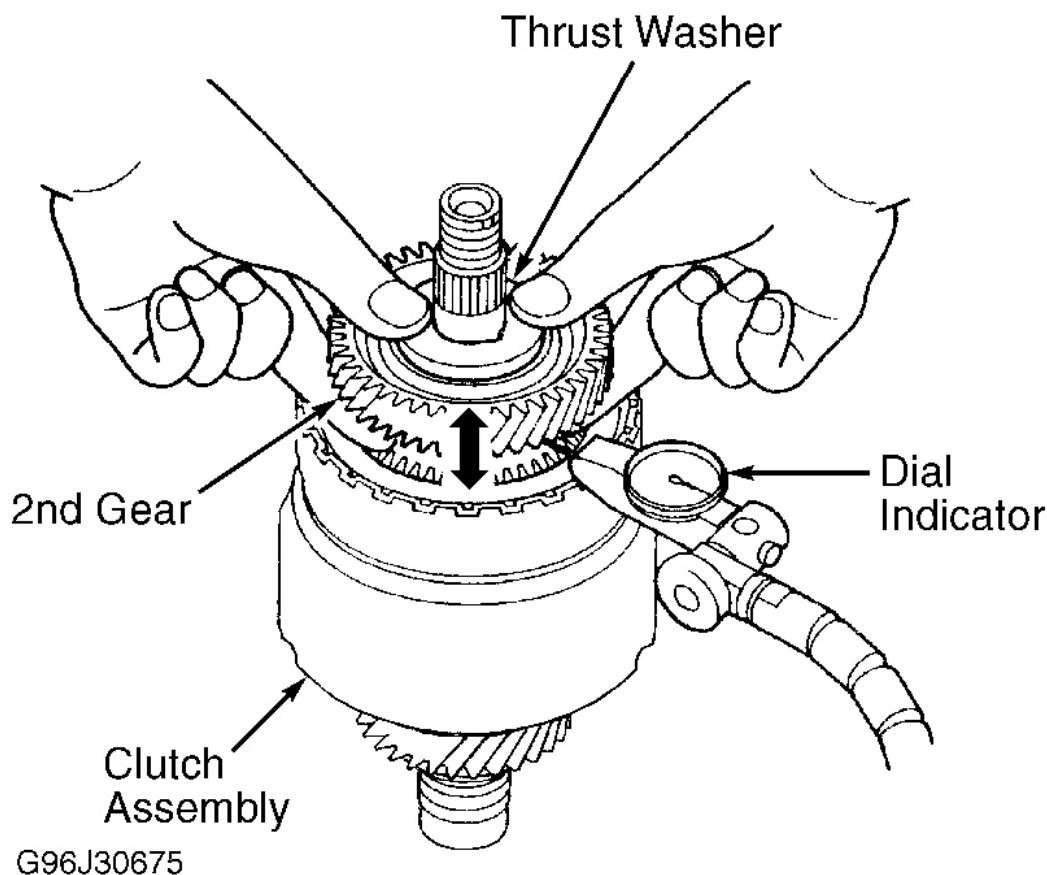

Fig. 27: Measuring 2nd Gear End Play
1. Lubricate all components with ATF. Reassemble specified secondary shaft components without "O" rings. See **Fig. 26** . Position dial indicator against 2nd gear. Hold thrust washer against clutch assembly. Measure 2nd gear axial clearance in at least 3 places while moving 2nd gear. See **Fig. 27** . Use average measurement as actual clearance. Specified clearance for 1997 models are .003-.006" (.07-.15 mm) and for 1998-99 models are .002-.005" (.04-.12 mm).